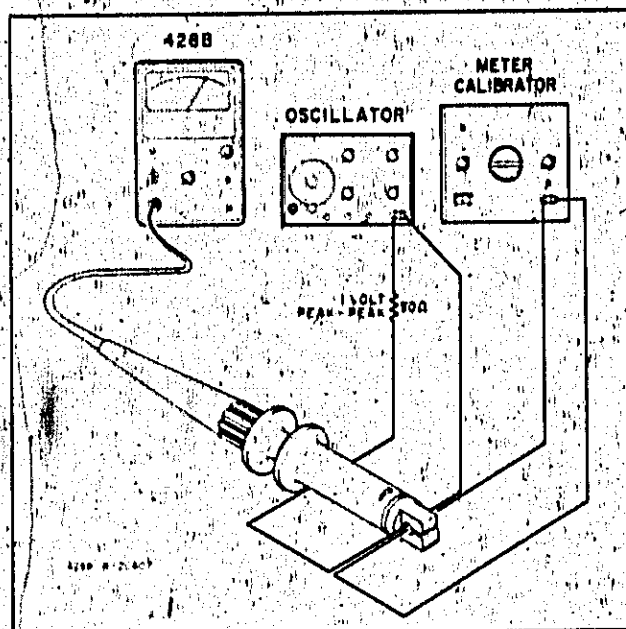

Figure 5-4. AC Overload.
5-22. An oscillator or function generator, a 50 ohm resistor, an ac voltmeter or oscilloscope, and the meter calibrator are required to complete this check (a filament transformer and suitable current limiting resistors can be substituted for the oscillator shown in Figure 5-4).
d. Clip the 428B probe onto *BOTH* the wire from the meter calibrator and the resistor lead from the function generator (see Figure 5-4).